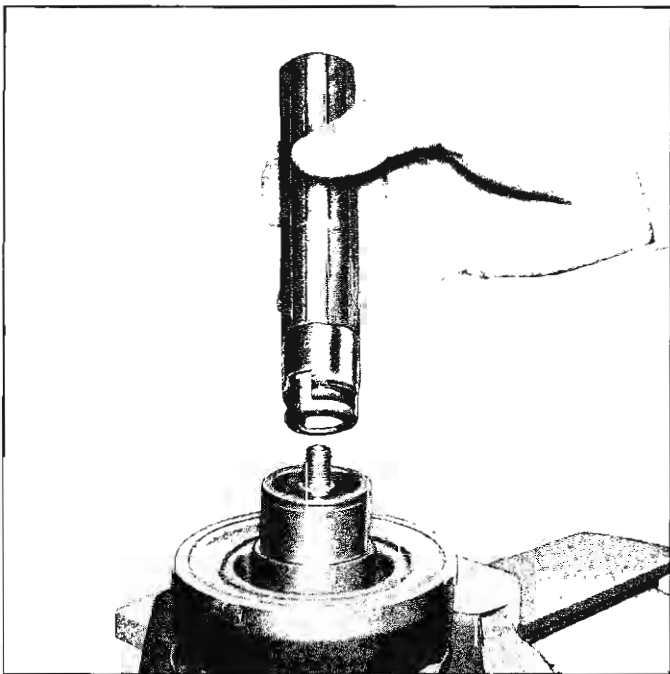

Fig. 24—Replacing Seal
1. Engage seal onto the locking tangs of Tool J-9392 (fig. 24) and carefully insert the seal and tool over the end of the shaft. Turn seal to engage the flat on the shaft, then remove the tool.